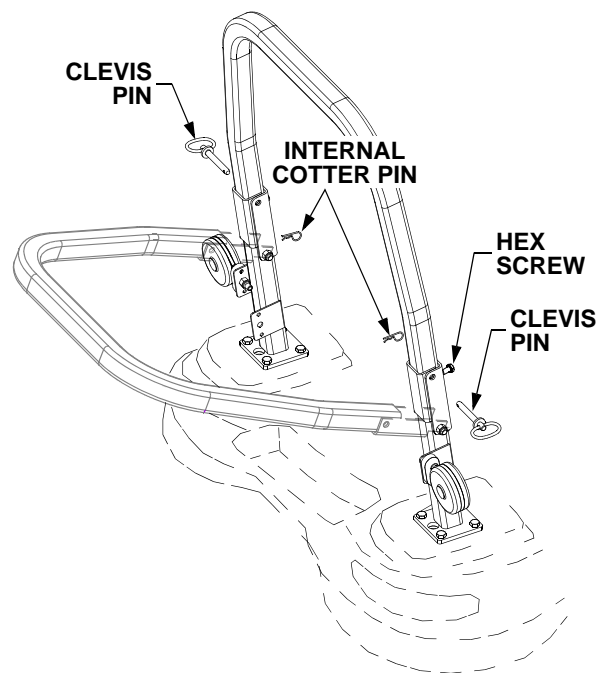

Figure 13
- Slightly loosen the two hex screws on the front of the ROPS to relieve their pressure on the ROPS. See Figure 13.
- Remove the two internal cotter pins, and, while supporting the ROPS, withdraw the clevis pins. See Figure 13. Carefully lower the ROPS.